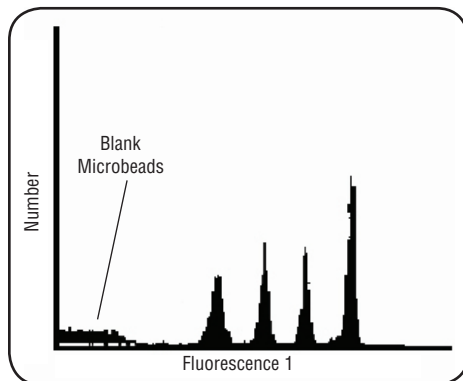

Figure 2
6. Verify that the blank appears near the origin of the histogram. (Figure 2)
Figures 2 and 3 depict the FL1 fluorescence histogram of the Quantum FITC MESF microspheres and the calibration curve from which the MESF values can be obtained, respectively.